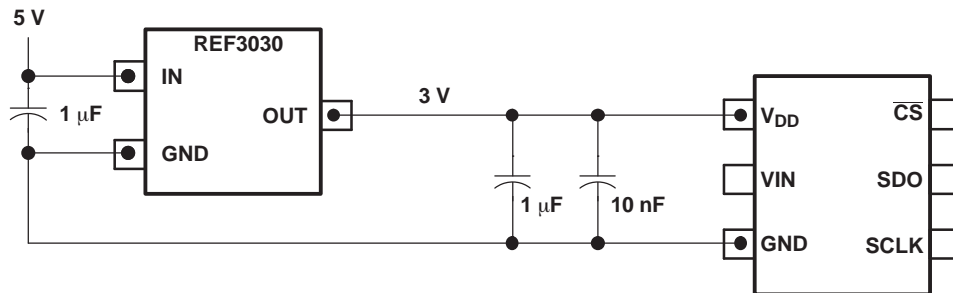

图 23. Using the REF3030 Reference
- From a reference output from a low-drift and low-dropout reference voltage generator like REF3030 or REF3130. The ADS7887 can operate off a wide range of supply voltages. The actual choice of the reference voltage generator depends upon the system. 图 23 shows one possible application circuit.